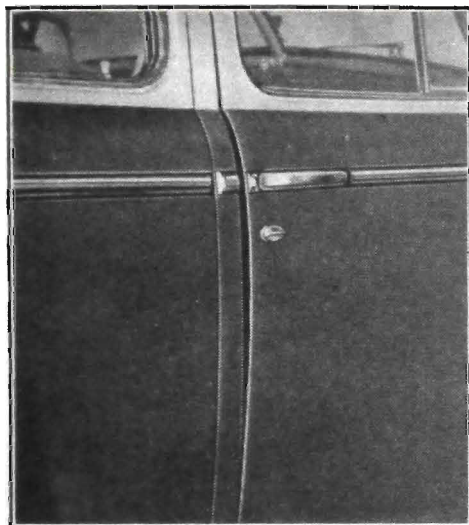

Fig. 1-95. A "bowed" door condition. Door fits at top and bottom, but stands away at the belt section.
- See Fig. 1-95. This condition may be noticed by